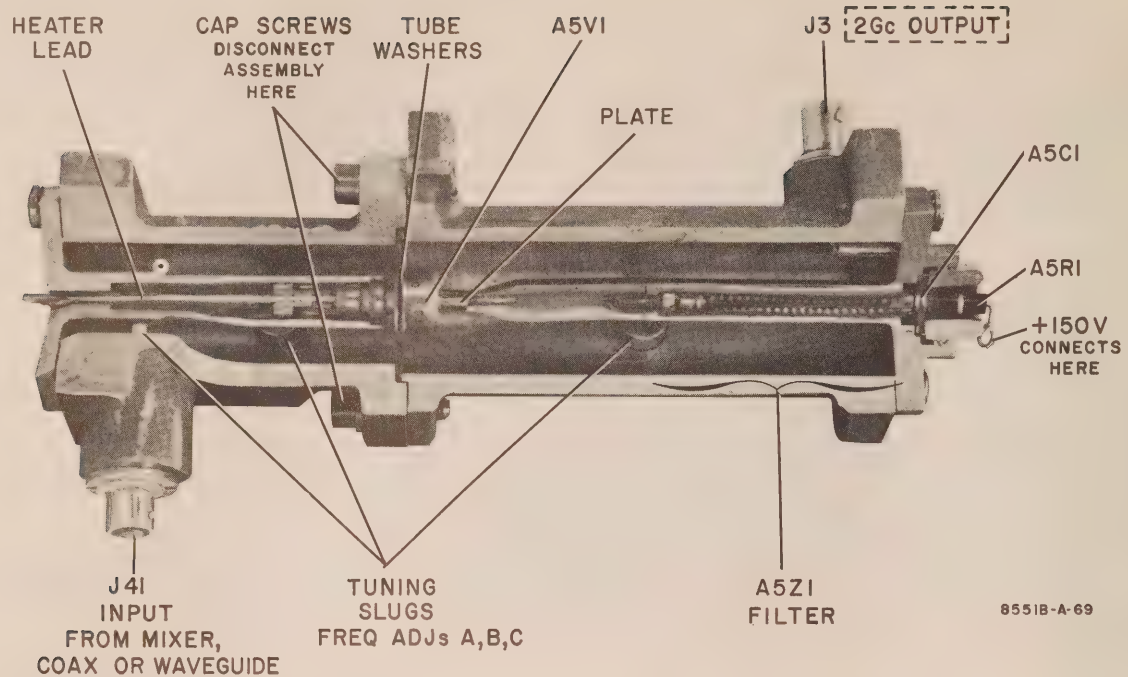

Figure 5-27. 2GC IF Amplifier Assy A5, Cutaway View
g. Tube heater is held securely in a socket, and probably long-nose pliers will be required to pull tube out. Grasp tube by plate (see Figure 5-27), and pull tube straight out. Note that concave side of other plate washer also is toward the tube. (This washer may drop out, but there is no need to remove it.)